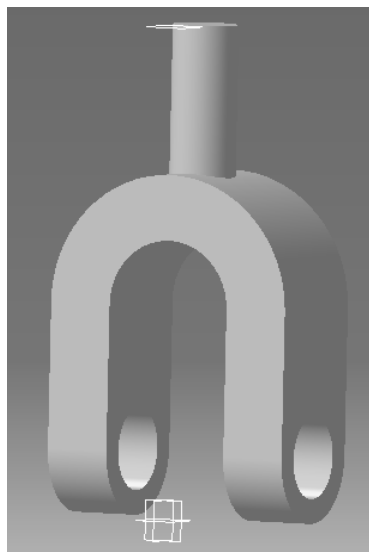

Figure 2.12
2.21 Exit the **Sketcher Work Bench** and extrude the circle down to the top surface of the **“Top U-Joint”** as shown in figure 2.12